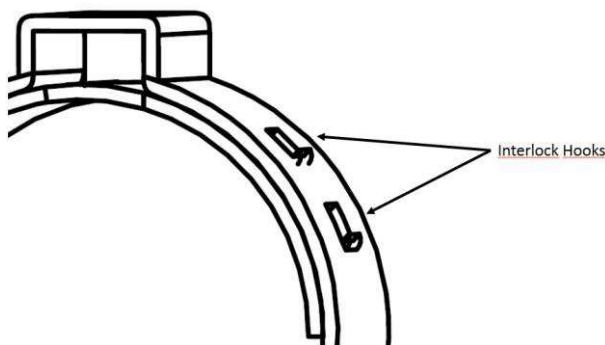

Figure 3: Interlock Illustration in Assembled Ear Clamps
3.4.2 Ear clamp construction. Ear clamps can be made in one (1) piece or be assembled. If assembled, the interlock (hooks that keep clamp together and support tensile loading during closure) must withstand when the maximum closing effort is applied and no damage must be seen. See Figure 3